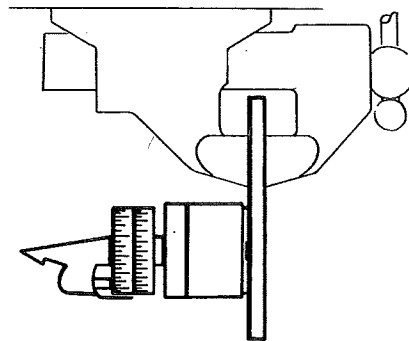

FIG.2
2. Attach magnetic gage to one side of ground stock (see fig. 2). Be sure all surfaces are clean.